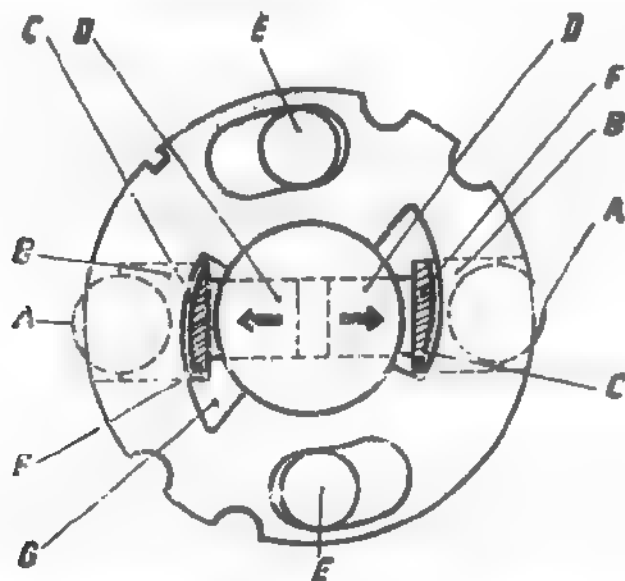

Fig. 4.74. MAXIMAL FUEL SUPPLY REGULATION
Maximal fuel setting is decided by the effective stroke of the plungers the outward travel of which can be varied. The shoes (B) - see Fig. 4.74 - actuating pump plungers (D) are retained in their guides by the top and the bottom adjusting plates (6) and (25) - see Fig. 4.72 - Ears (F) - Fig. 4.74 - integral with the shoes register in excentric slots (G) in the adjusting plates (25) - Fig. 4.72 - The top plate is clamped between the drive plate and the end of the rotor by the two screws (E) - Fig. 4.74 - securing the drive plate. These screws pass through elongated slots in the top adjusting plate; when the screws (e) are slacken the plates can be moved together, being linked by lugs in the top plate which register with slots in the bottom plate.
The outward travel of the plungers is determined by the position of the ears (F) in the excentric slots (G). In Fig. 4.74 the adjusting plates are set to give the lowest maximum fuel, that is the shortest distance the plunger can travel. This can be increased by moving the plates in a clockwise direction, viewed from the rotor. The plungers are shown on their inlet stroke, and the clearance (C) is the distance the plungers will travel to maximum fuel position.